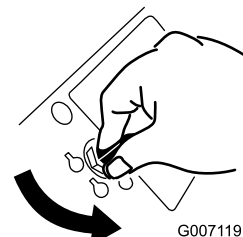

Figure 26
3. Turn the ignition key off (Figure 26).